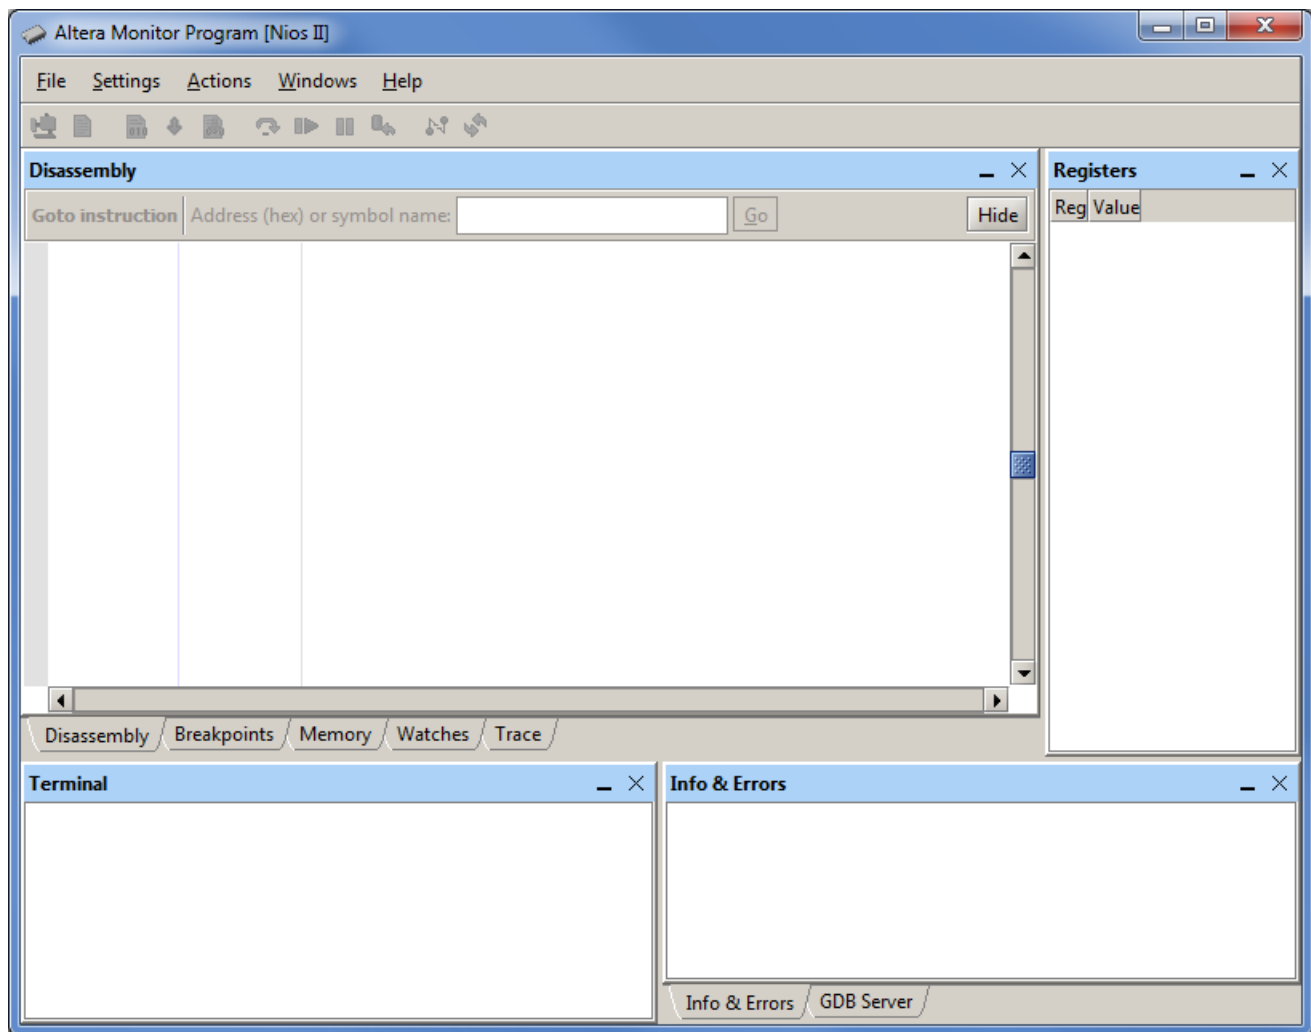

Figure 25. The Altera Monitor Program main window.
Open the Altera Monitor Program, which leads to the window in Figure 25.
9. Now, in the monitor window in Figure 25 select **Actions > Compile & Load** to assemble and download your program.